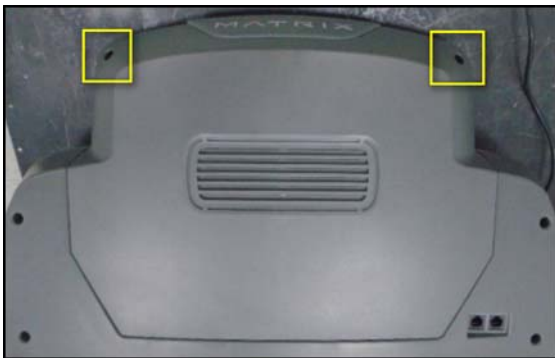

Fig1
1. Loosen the 2 bolts from console back cover & remove the cover (Fig1)